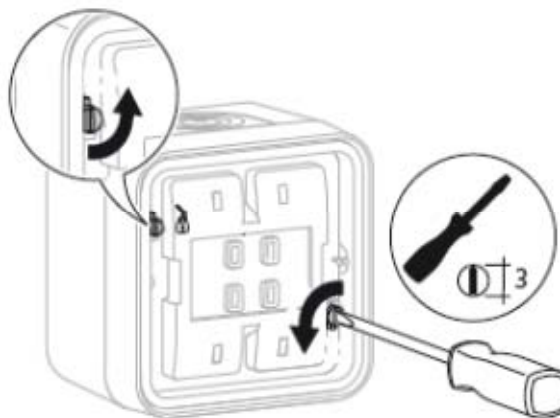

Figure 2
- Unlock quick-release bayonet connectors (8) by a ¼ turn to the left with the screwdriver (Figure 2).
- Remove frame with sealing from the housing bottom part (5).